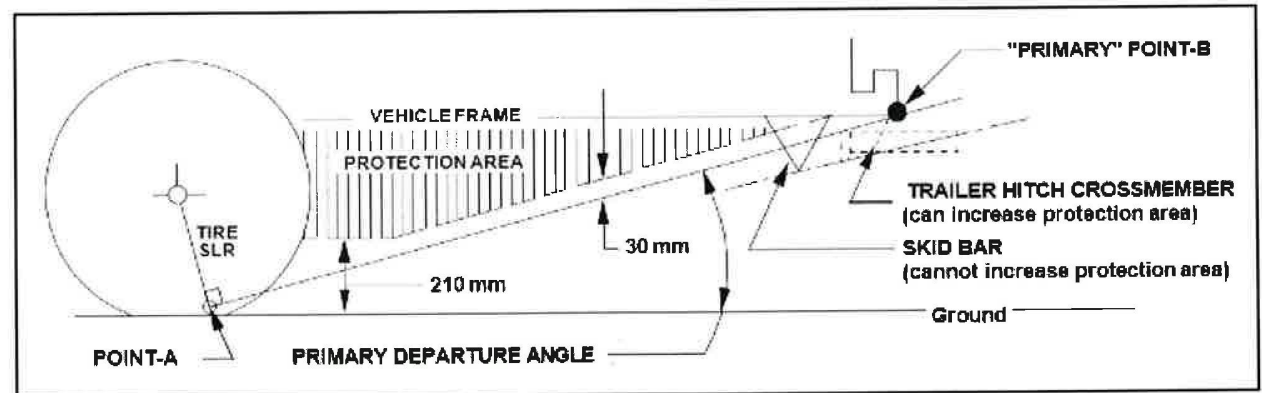

Figure 38 – Departure Angle Definition
**Definition: Angle of Departure** - An angle between the ground line and a line formed by points A and B, as shown in Figure 38. It is measured with the vehicle loaded simultaneously to both the front and rear GAWRs. Point A is tangent to the tire Static Loaded Radius (SLR) (SLR values are provided in the program BBLBs). Point B is any point on the vehicle rearward of the rearmost laden tire. The "Primary Departure Angle" defines ground clearance.